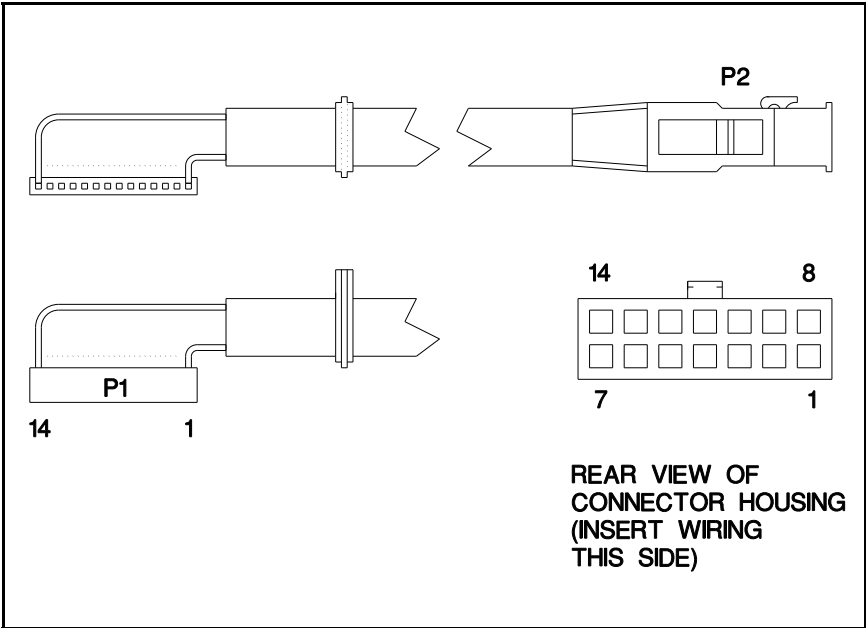

Figure 10- Option Cable Pin Locations
3. Pins are supplied on the ends of the external speaker cable option PMCC9M. Push these pins into sockets 2 and 9 of the connector housing supplied with the option cable. Refer to Figure 10 and Table 2.